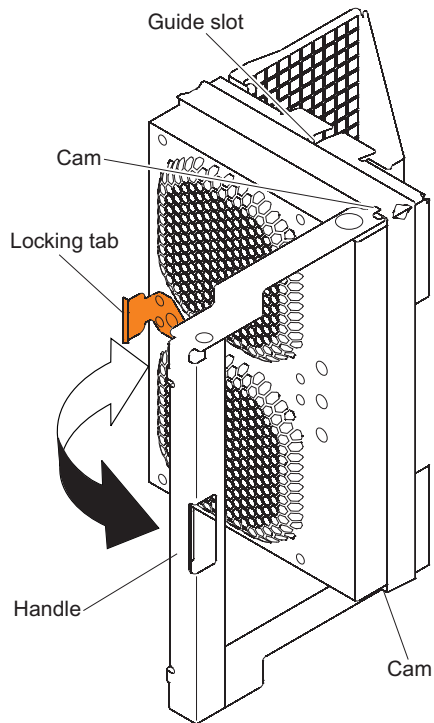

Figure 90. Removing a fan assembly
- a. At the rear of the storage expansion enclosure, remove the fan assembly (see Figure 90 on page 129) by pressing on the locking tab holding the fan assembly handle in place; then, pull the fan assembly towards you.